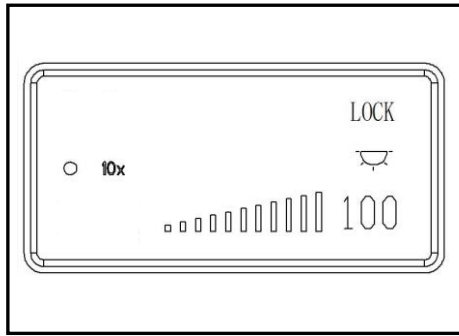

Fig.15
3. Double-click Knob: lock brightness or unlock (Fig.15). The brightness adjustment knob fails when locking, and "LOCK" appears on the LCD screen; Double-click the knob again to release the lock and the "LOCK" on the screen disappears;